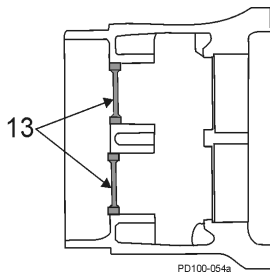

Figure 198 - Remove Rear Oil Seals
10. Press out and discard both rear oil seals in the gear case (Figure 198, item 13).